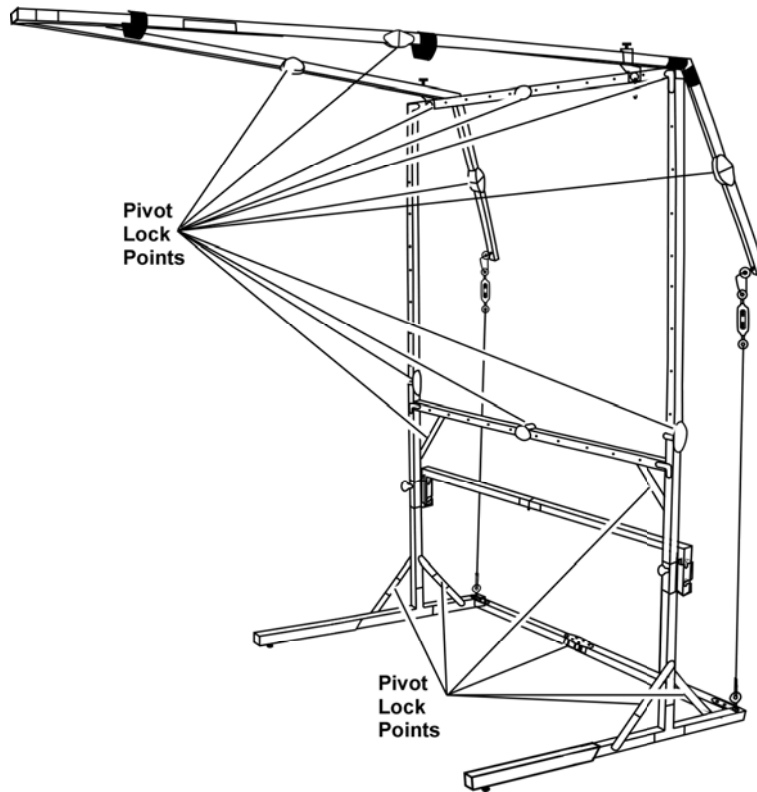

Figure 8. Frame Assembly Locked Points.
16. Manually inspect all of the pivot points around the frame assembly shown in Figure 8 to verify that they are in the locked position.